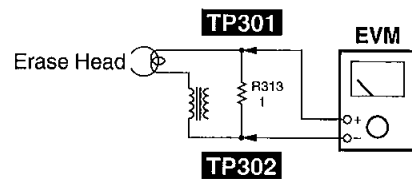

Fig. 6
3. Check if the output at this time between the erase current confirmation point **TP301** and **TP302** (the output on both edged of R313) is within the standard value. (Refer to Fig. 6.)